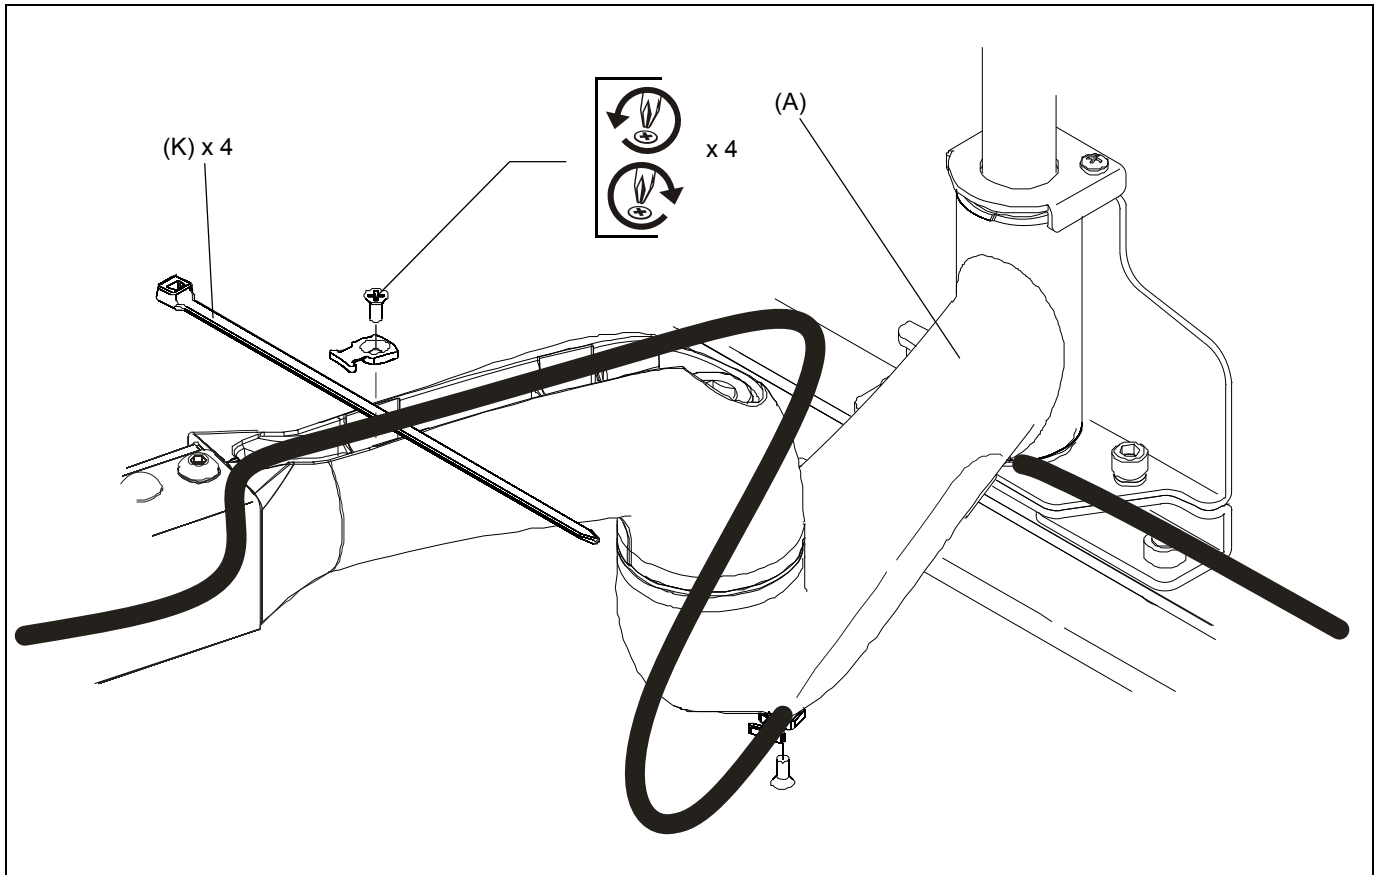

Figure 10
1. Loosen front and rear cable clamps on top arm. (See Figure 10)
2. Thread cable ties (K) under cable clamps and secure clamps to top arm. (See Figure 10)
3. Route power/audio/video cables through the cable channel in top arm (See Figure 10), allowing sufficient slack in cables for left/Right movement of display and swing arm and also swing arm extension and retraction.
4. Secure cables to top arm using two cable ties (K).